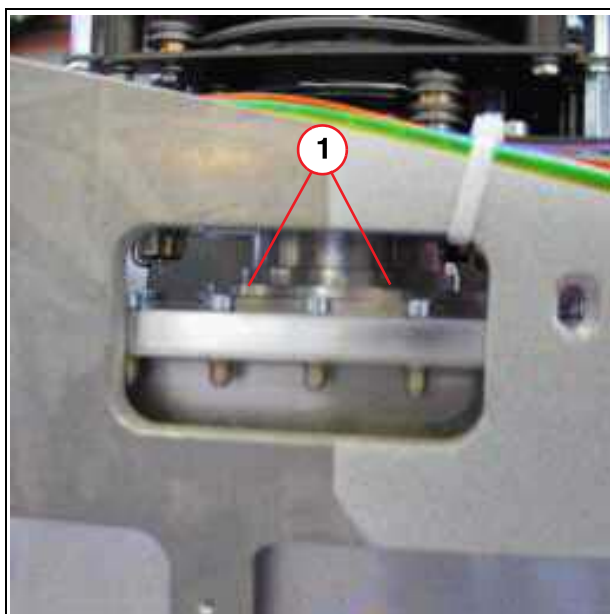

Fig. 10: Collimator_mount
4. Remove the 4 Allen screws from the collimator and remove the collimator (1/Fig. 10 / p. 36).
4. Attach the collimator with the 4 Allen screws (1/Fig. 10 / p. 36).